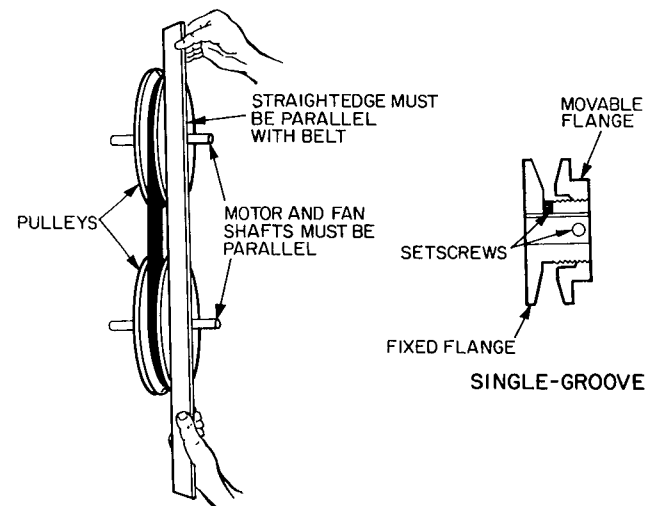

Fig. 25 – Evaporator-Fan Pulley Adjustment
3. Loosen movable pulley flange setscrew (see Fig. 25).